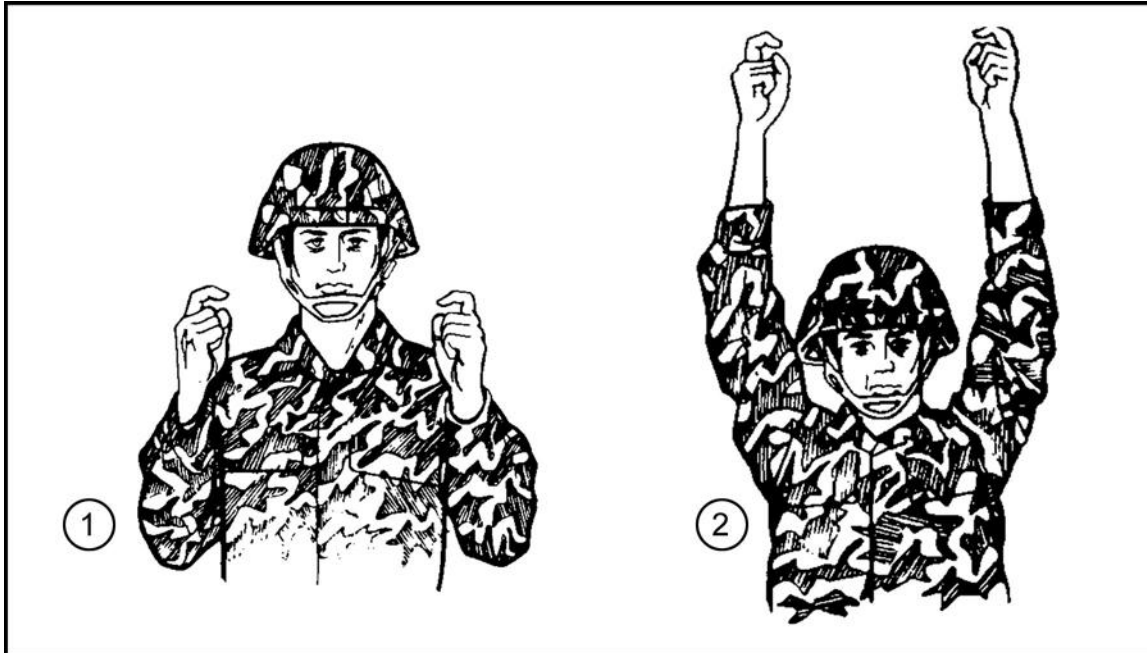

Figure 5-4. HOOK UP.
(1) The JM begins with his arms either extended directly overhead with elbows locked or with arms bent, hands at shoulder level.
(2) He forms a hook with the index finger of each hand. He forms fists with the remaining fingers and thumb of each hand (Figure 5-4).
(3) As he gives the oral command, he moves his arms down and up in a pumping motion. He repeats the arm-and-hand signal at least three times.